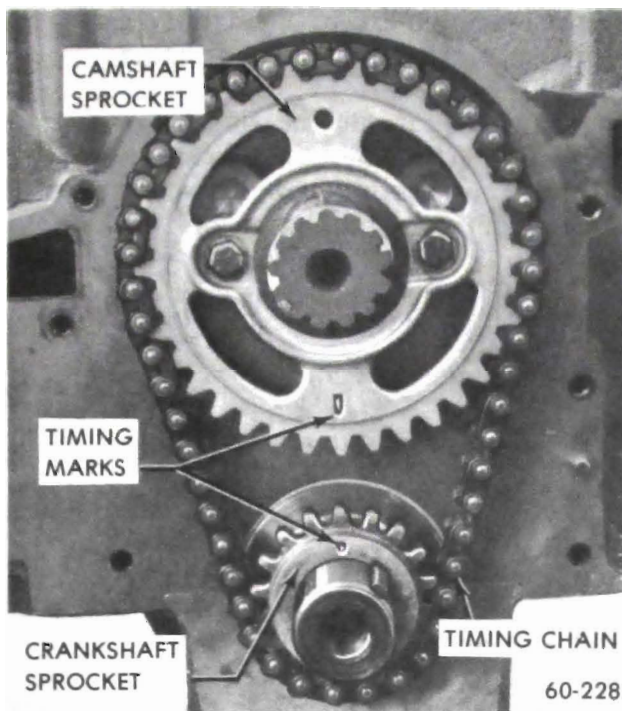

Figure 60-55 - Installation of Timing Chain and Sprocket (455 cu.in.)
1. With timing chain cover removed (subpar. a above) Temporarily install crankshaft pulley bolt and washer in end of crankshaft. Turn crankshaft so sprockets are positioned as shown in Figure 60-55. Remove crankshaft pulley bolt and washer using a sharp blow on the wrench handle, so that the bolt can be started out without changing position of sprockets.
2. Turn camshaft so with sprocket temporarily installed, timing mark is straight down. See Figure 60-55. Remove sprocket.
3. Assemble timing chain on sprockets and slide the sprocket and chain assembly on the shafts with the timing marks in their closest together position and in line with the sprocket hubs. See Figure 60-55.